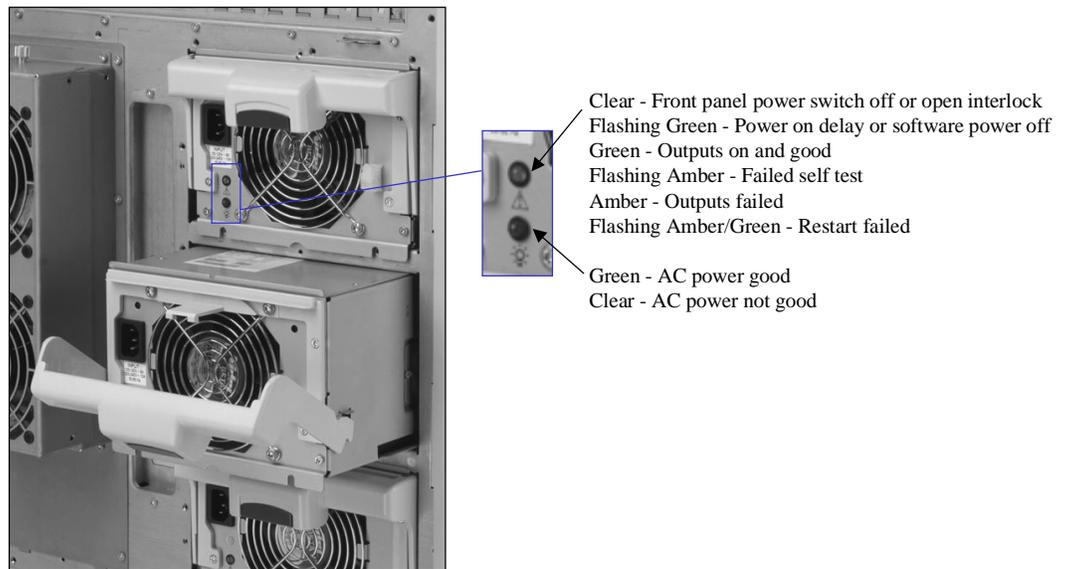

Figure 9: Power supply LED status indicators.
- **LED Standby Controls.** The microcontroller also drives two status LEDs on the back of the power supply that indicate power status, as shown in Figure 9. This gives the user vital status information at a glance.